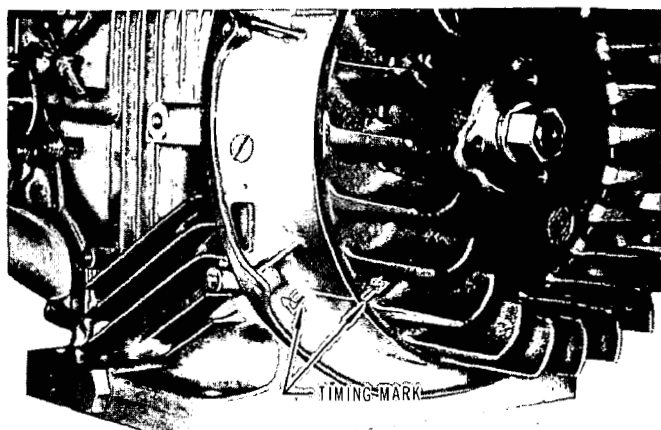

Fig. 7-3-1
- D type: D mark at lower left crankcase (see Fig. 7-3-1)
- 3) Connect one of the timing light leads to the coil primary wire and ground the other lead to crankcase. (see Fig. 7-3-1)